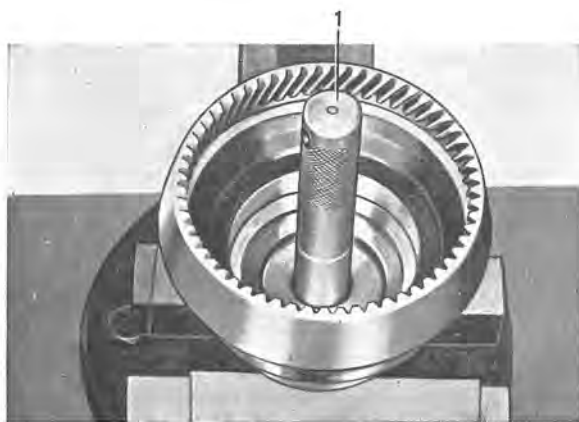

Fig. 4-49. Fitting bush, output shaft
1. Push the bush on to the output shaft with drift SVO 2417, see Fig. 4-49. Press the front bearing to the output shaft with drift SVO 2412.